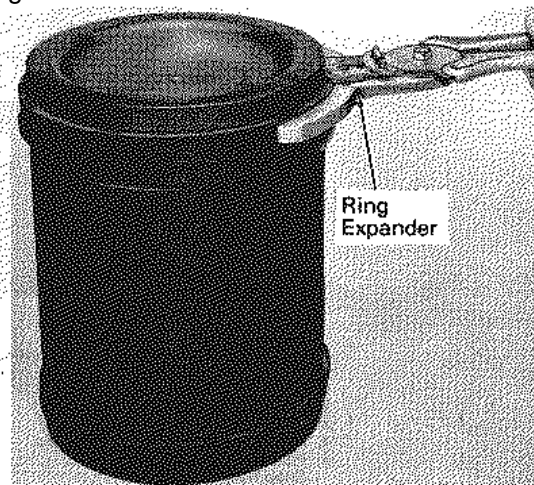

Fig.3-8-Removing Pistons Rings
1. Remove the piston rings using ring expander as shown in Fig. 3-8, and discard the old rings.